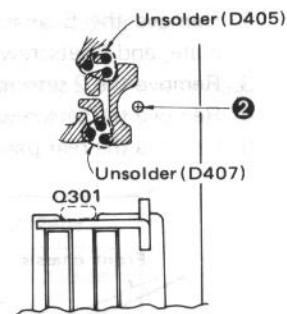

Fig. 19
3. Remove the setscrew ② (Fig. 19) from the back of printed circuit board.